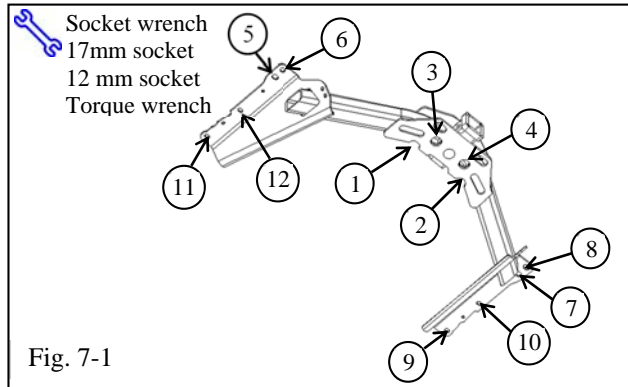

Fig. 7-1
NOTE: Tighten the bolts in the order specified in Fig. 7-1.
-  (a) Tighten (4) M12 bolts in the center (labeled 1-4, Fig. 7-1).
-  (b) Tighten (4) M12 bolts on the frame rail (labeled 5-8, Fig. 7-1).
-  (c) Tighten (4) M8 bolts on the frame rail (labeled 9-12, Fig. 7-1).